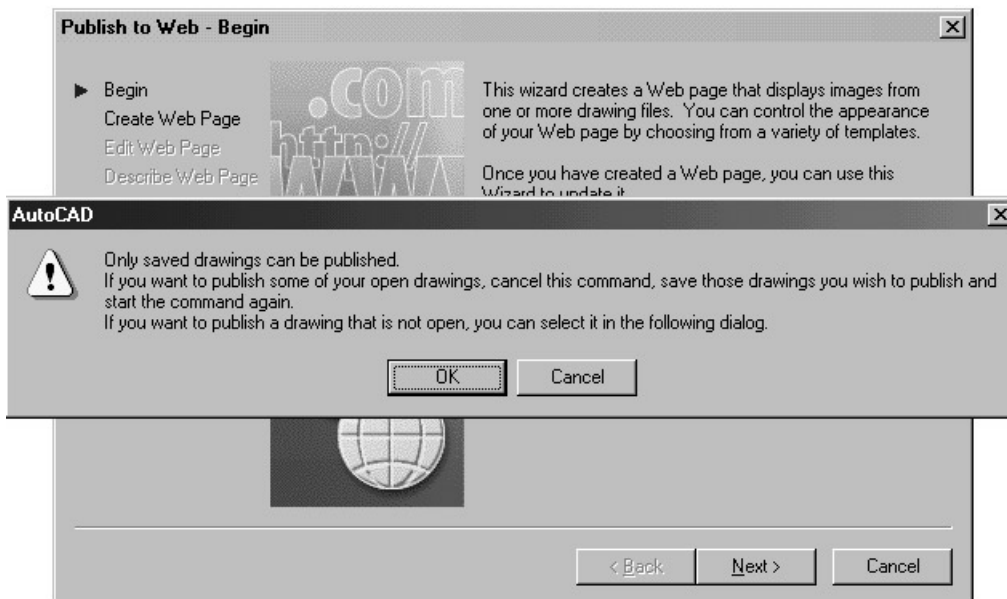

Figure 46.1 The AutoCAD message with Publish to Web.
- prompt* AutoCAD message similar to Fig. 46.1